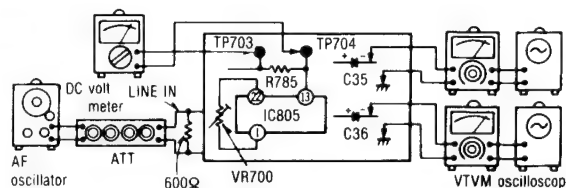

Fig. 18
1. Make the connections as shown in fig. 18 and apply 1kHz -27dB signal from LINE IN, and set the noise reduction selector to dbx tape position.